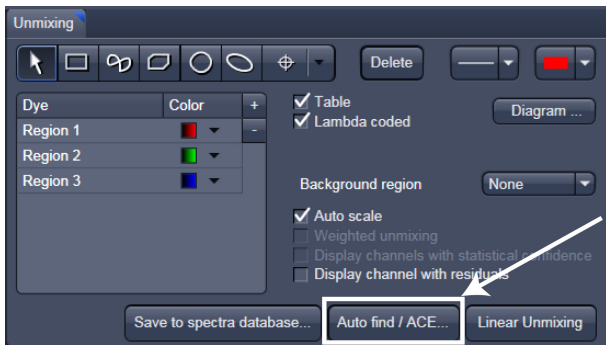

Fig. 6-104 Automatic Component Extraction function
- Click on the **Auto find / ACE...** button in the Unmixing View Option control tab (Fig. 6-104).
- When obtained spectra appear reasonable, unmix the data set by clicking the **Linear Unmixing** button (Fig. 6-104).